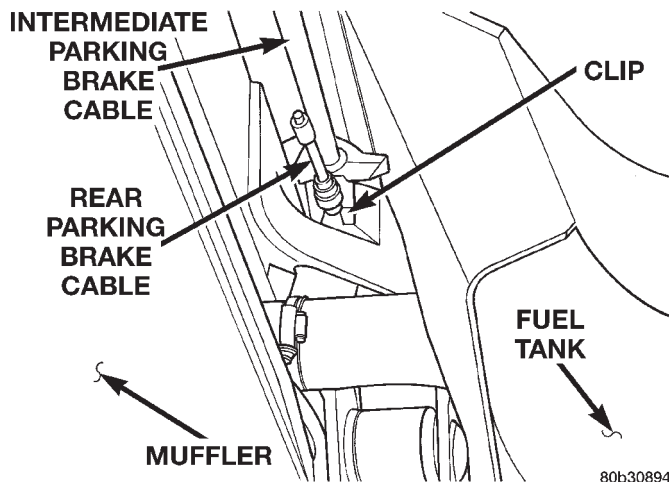

**Fig. 31 Rear Parking Brake And Retainer Clip (left)**
(5) Remove the screw securing the brake tubes to the left stabilizer bar isolator bushing retainer.
(6) Remove the 4 bolts attaching both stabilizer bar isolator bushing retainers to the frame rails (the 2 rearward attaching bolts also attach the front corners of the rear suspension crossmember in place). Allow the stabilizer bar to hang down.
(7) Remove the parking brake cable tensioner from the intermediate parking brake cable. Refer to Base Brake System in Group 5 Brakes in this manual for the required service procedure.
(8) Remove the parking brake cable tensioner from the left rear parking brake cable. Refer to Base Brake System in Group 5 Brakes in this manual for the required service procedure.
(9) Remove the right rear parking brake cable from the intermediate parking brake cable. Refer to Base Brake System in Group 5 Brakes in this manual for the required service procedure.
(10) Remove the retainer clips securing both rear parking brake cables assemblies to the rear suspension crossmember (Fig. 31).
(3) Install Intermediate parking brake cable routing clip into place on left front of crossmember (Fig. 31).
(4) Reattach left forward lateral link to crossmember. Install mounting bolt though the front of the crossmember mount towards the rear. Do not install and torque nut at this time.
(5) Raise the crossmember up against the frame rails. Install, but do not fully tighten, the 2 bolts attaching the rear of the crossmember to the frame rails.
(6) Raise the exhaust into place. Reattach the 3 exhaust hangers previously removed from the muffler and resonator.
(7) Remove transmission jack supporting muffler and exhaust system.
(8) Reinstall the fuel filler neck attaching screw and secure the fuel filler neck to the left frame rail.
(9) Position the rear parking brake cables into crossmember alignment holes (Fig. 31).
(10) Install the retainer clips securing both rear parking brake cables assemblies to the rear suspension crossmember (Fig. 31).
(11) Reconnect the right rear parking brake cable to the intermediate parking brake cable.
(12) Install the parking brake cable tensioner to the left rear parking brake cable.
(13) Install the parking brake cable tensioner to the intermediate parking brake cable. Refer to Base Brake System in Group 5 Brakes in this manual for the required service procedure to install and properly adjust the parking brakes.
(14) Install the 4 bolts attaching both stabilizer bar isolator bushing retainers to the frame rails (the 2 rearward attaching bolts attach the front corners of the rear suspension crossmember in place). Tighten the forward stabilizer bar isolator bushing retainer attaching bolts to 40 N·m (30 ft. lbs.). Tighten the 2 rearward stabilizer bar isolator bushing retainer attaching bolts (which also serve as the front crossmember attaching bolts) to 100 N·m (75 ft. lbs.).
(15) Tighten the rear suspension crossmember rear attaching bolts to 100 N·m (75 ft. lbs.).
(16) Install the screw securing the brake tubes to the left stabilizer bar isolator bushing retainer.
(17) Install the remaining 3 lateral links to the rear suspension crossmember. The forward lateral arm mounting bolts must point rearward, and the rearward lateral arm mounting bolts must point forward.